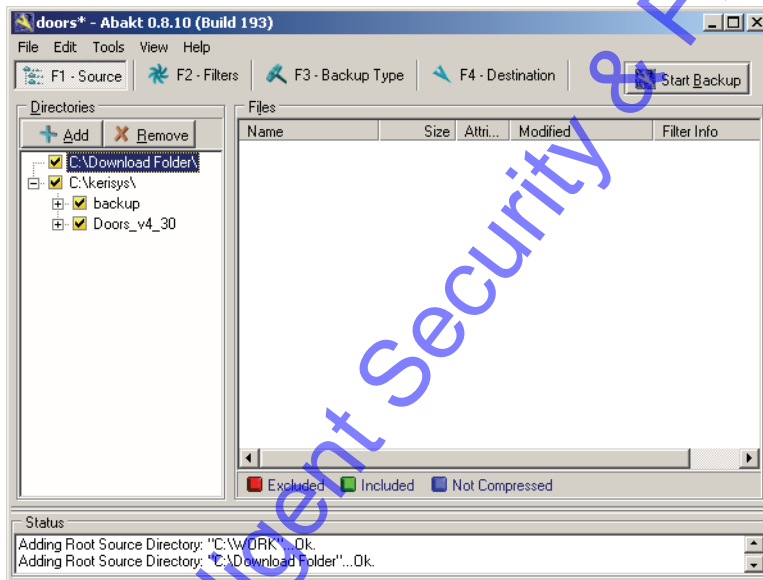

Figure 5-53: New Source for Backup
3. The new location is shown in the “Directories” field (see Figure 5-53).